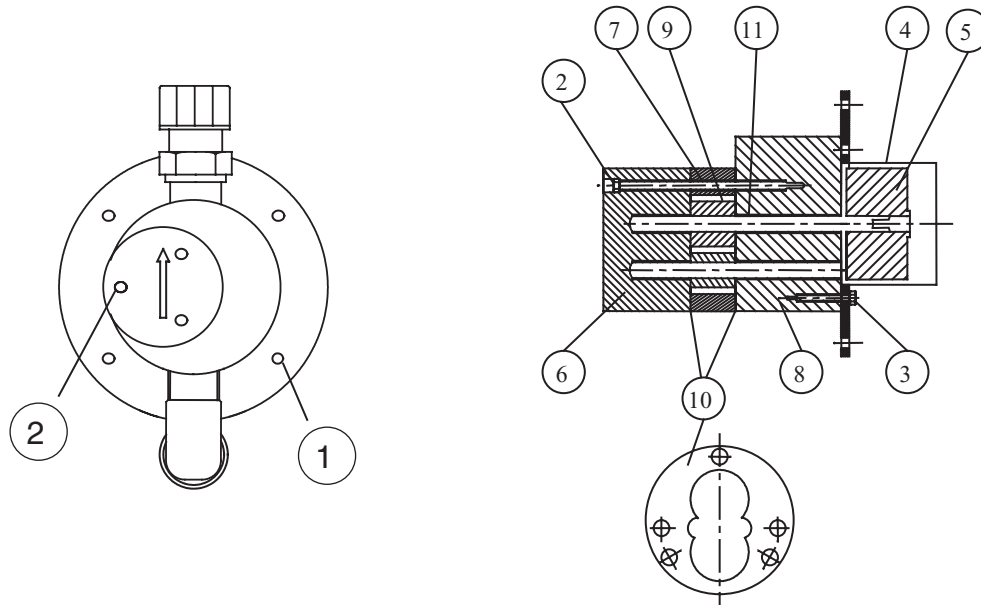
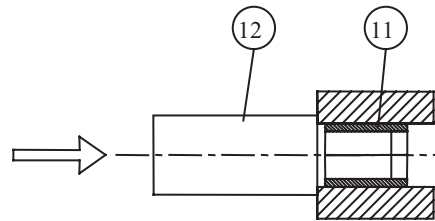

Figure 22: Pump Head, Front and Side View
Figure 23: Inserting New Pump Bearings
Refer to Figures 22 and 23.
3. Loosen the four Phillips-head screws (figure 22, item 1) and remove the pump head.
4. Open the three slot bolts (3) at the back of the pump head and remove metal (4) from the drive magnet (5).
6. Loosen the three screws (2) (slotted screws or with hexagonal recess) on the front side.
7. Remove both sections (6, 7) of the pump head from the base plate (8).
8. Remove old gears (9) and both Teflon gaskets (10) between the two pump sections.
9. Pull out the six Teflon bearings, (figure 23, item **11**) from the front section, (figure 22, item **6**) and the base plate (**8**) (two in front disk, four in base plate) with a screw extractor or a small wood screw.